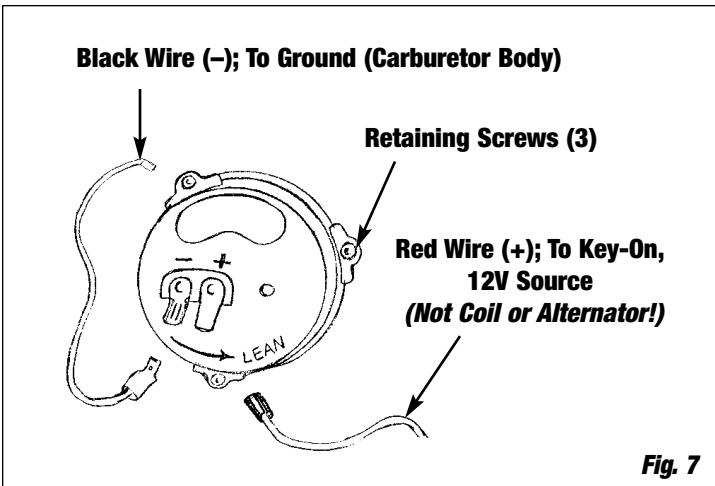

Fig. 7
- On electric choke models (**See Fig. 7**), remove one choke housing retaining screw and install eyelet end of choke ground wire (black) to choke housing and reinstall screw. Connect clip end of choke ground wire to negative (-) spade terminal on choke housing.
5. Connect manual choke cable to the provided lever attachment point and cable mounting bracket (manual choke models) (**See Fig. 9**). Electric choke models connect red choke wire to 12 volt (+) source that is activated by ignition switch (**Not coil or alternator, see Fig. 7**).